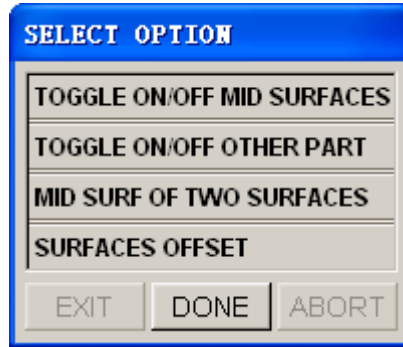

Figure 5.2.6 Select Options dialog box
3. After the mid surfaces are created, the SELECT OPTION dialog box as illustrated in Figure 5.2.6 shown will pop-up.